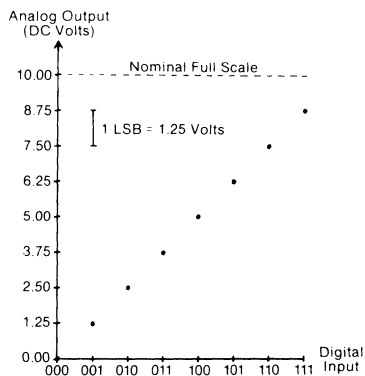
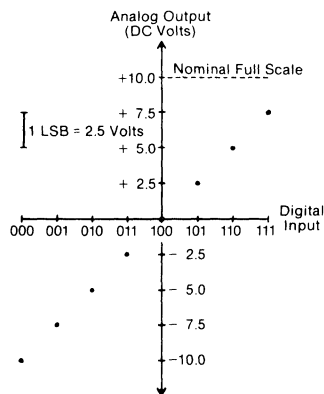

Figure 1. Digital input/output transfer function of an ideal, 3-bit, 0 to +10V output range, binary coded D/A converter.
Figure 2. Digital input/output transfer function of an ideal, 3 bit, $\pm 10V$ output range, offset binary coded D/A converter.
Let's begin at the beginning, with the data converter input/output transfer functions. Figure 1 shows the ideal digital input/output transfer function of a 3 bit, 0 to +10V output range, binary coded digital to analog converter (D/A).
Figure 2 shows the ideal digital input/output transfer function of a 3 bit, $\pm 10V$ output range, offset binary coded D/A converter.
has $2^8 = 256$ different input codes; a 12 bit D/A has $2^{12} = 4096$ input codes; etc... The 3 bit D/A of Figure 2 operates as follows:
The analog output of a D/A converter changes in discrete analog steps with changes in digital input. The smallest change in output level that can be generated by a D/A converter, i.e., the change from one analog output level to an adjacent level, is the value assigned to the converter's Least Significant Bit (LSB). The smallest change in output level a D/A can produce is a measure of its resolving power; it is its resolution. Resolution is also expressed in bits. In this example we have a 3 bit converter; its resolution is 3 bits. Resolution can also be expressed in terms of the number of output levels the device has; for a 3 bit device the number is eight. The value of the LSB (also called a quantum) is equal to the converter's Full Scale Range (FSR) divided by the number of different input codes, i.e., the number of different output levels (2^n). A D/A converter's Full Scale Range is equivalent to the nominal peak to peak voltage (or current for current-output devices) of the converter's output range. For the 3 bit 0 to +10V output range D/A of Figure 1, FSR = 10 volts, and 1 LSB = $10V/2^3 = 10V/8 = 1.25$ volts. For the 3 bit $\pm 10V$ output range D/A of Figure 2, FSR = 20 volts, and 1 LSB = $20V/2^3 = 20V/8 = 2.5$ volts. Table 1 shows the weights and amplitudes of LSB's for higher resolution converters.
Notice in Figures 1 and 2 that when all the digital inputs are turned "on", i.e., when the digital input is 111, the output of the converter doesn't quite make it to its nominal full scale value. It always falls 1 LSB short. This is due to the fact that
the value of bit 1 (the Most Significant Bit or MSB) is FSR/2, the value of bit 2 is FSR/4, and the value of bit 3 (LSB) is FSR/8. When all the bits are "1", the output level will be the value of bit 1 (MSB) plus that of bit 2 plus that of bit 3 (LSB), i.e., its level will be $(\frac{1}{2} + \frac{1}{4} + \frac{1}{8}) = \frac{7}{8}$ FSR. Therefore, the actual positive full scale output of the D/A in Figure 1 is + 8.75V, not 10V, and the actual positive full scale output of the D/A in Figure 2 is + 7.5V, not 10V. For simplicity and convenience, however, data converters will usually have their analog input or output defined according to its nominal full scale (FS) value or its nominal FSR rather than to its actual FS or FSR.
Invariably, you'll see D/A transfer functions depicted as staircases. If one displays the D/A transfer function on a scope while stepping the input and sweeping the output at the right speed, one can make the transfer function look like the staircase one often sees, but the theoretical transfer function is a series of points as shown in Figures 1 and 2. A given digital input produces one and only one analog output level (voltage or current), and there are only 2^n (n = number of input bits) possible inputs (outputs).